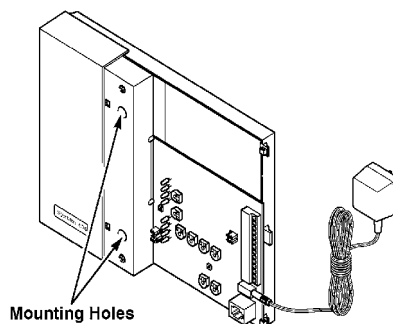

Figure 3. Base Station Mounting Holes
| Figure 3. Base Station Mounting Holes | 3 |
2. Mount the base station using the included screws and anchors. (See Figure 3.)